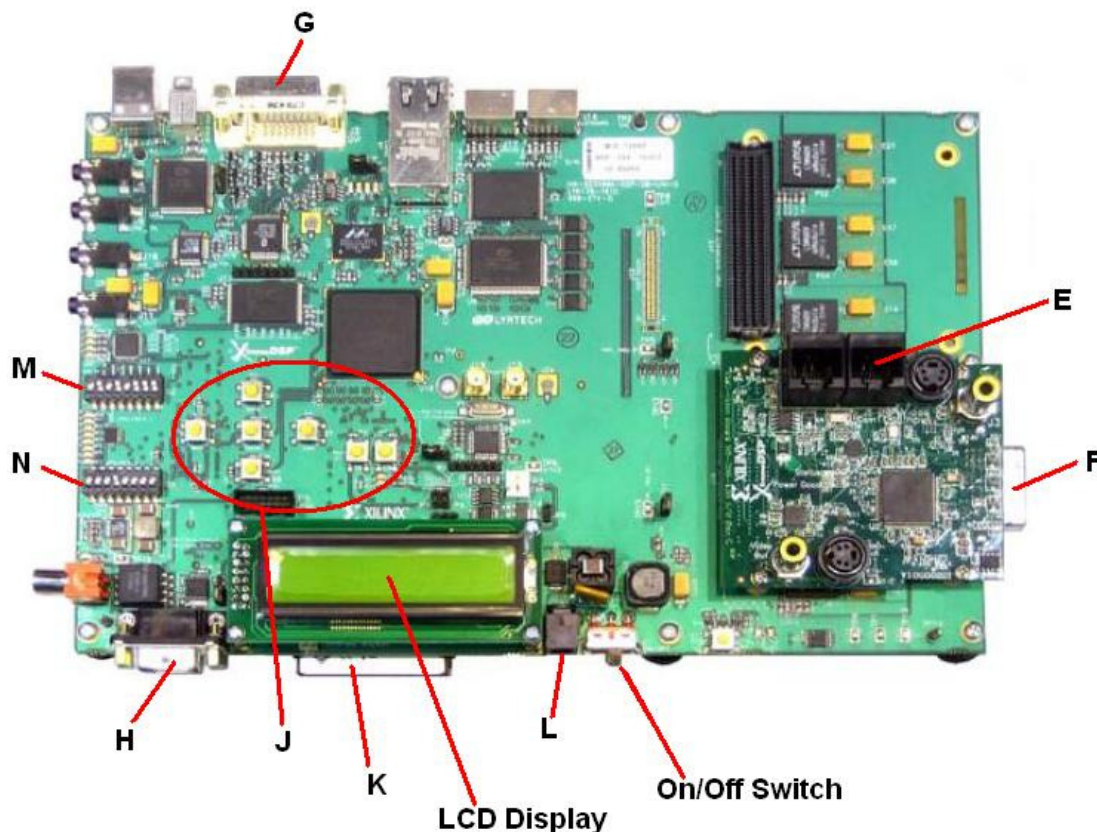

Figure 4: Spartan-3A DSP 3400A Development Platform with FMC-Video Daughter Card
2. Insert the Compact Flash into Development board's slot marked K in Figure 4 if it is not already in place.
3. Ensure that the switch marked M in Figure 4 (known as S2 on the board), is set to 01010111 (0 being down closer to LCD display and 1 being up away from LCD display). Also ensure that the switch marked N in Figure 4 (known as S3 on the board), is set to 00010000. This allows the demos to be run.
4. The seven push buttons marked as J in Figure 4 have labels on the board next to each as shown in Table 2. These will be referenced in the next section.
5. Before plugging in the power cable, ensure that the board's power switch is off. Locate the on/off switch (marked respectively in Figure 4), and note that switched to the *right* is powered off and to the *left* is powered on. Plug the power adapter into a standard wall outlet and the other end into the port marked L in Figure 4.
6. Assemble the camera and tripod by screwing the tripod into the base of the camera. Next plug the CAT6 Ethernet cable from the camera into the port marked E in Figure 4. The camera will be a live video feed for the demo⁷.
⁷ An alternative to using the camera as the video input is to use a separate computer as the video source. This can be done by plugging a VGA cable from a computer (not the one running the HyperTerminal), into the port on the FMC-Video Daughter Card marked F in Figure 4. Make sure to have the computer broadcast its desktop (similar to presenting the PC's desktop on a projector). Also, be sure to remove the CAT6 cable that is running to the FMC-Video Daughter Card.
7. Next, grab the USB to RS232 Interface cable and plug the USB into a personal computer which has a Terminal Program (such as HyperTerminal) and the 9-pin other end into the port marked H in Figure 4.
8. Finally, connect the DVI-I Dual Link Connector to one end of the VGA cable and then into port G in Figure 4. Plug the other end of the VGA cable into an external monitor display (the output of the demo will be shown on this display).